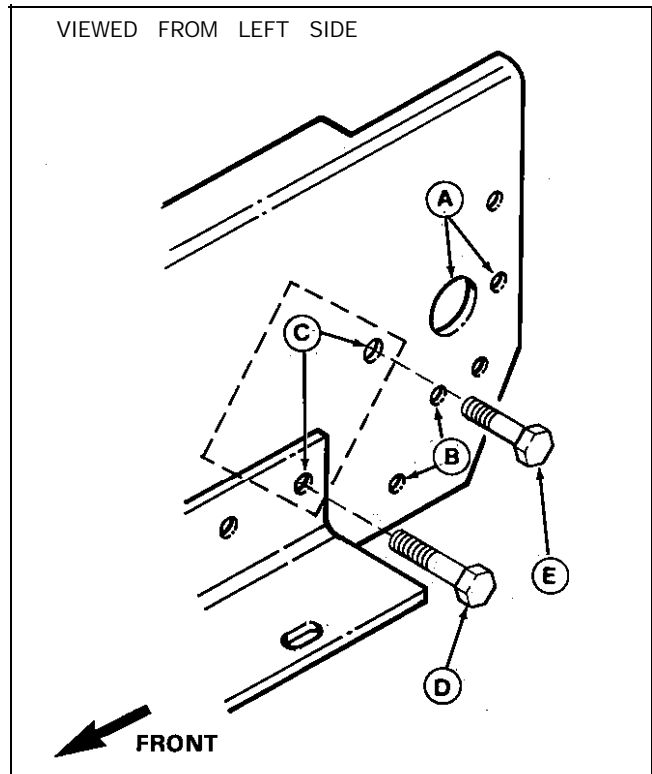
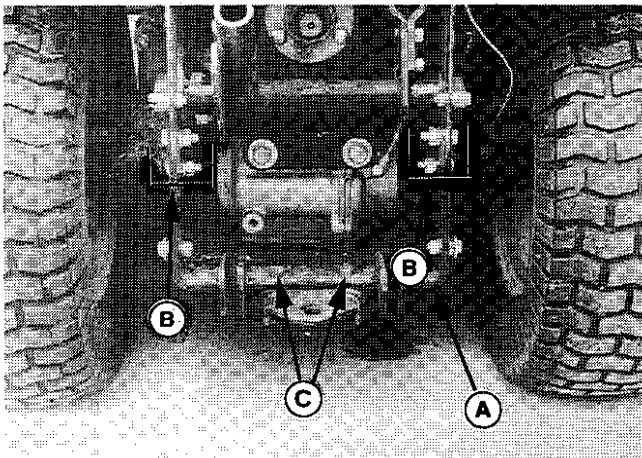

Figure 7.
Figure 9.
- b. Install the plate in mounting holes (C, figure 7) shown. Use 7/16-14 x 1-1/2" screw (D) at front hole and 7/16-14 x 1-1/4" screw (E) at rear hole. Install lockwashers and nuts.
6. Position the hitch (A, figure 9) as shown and install two **7/16-14 x 1-1/4" capscrews 7/16" lockwasher and 7/16" nuts** (B) each side. See mounting holes (B, figure 7).